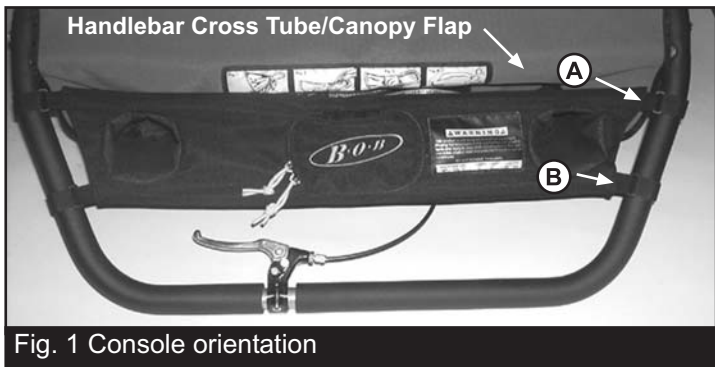

Fig. 1 Console orientation
1. Begin by orienting the Handlebar Console as shown in figure 1. The front edge of the console aligns approximately 1" behind the back of handlebar cross tube/canopy flap.
2. The Handlebar Console attaches to the stroller handlebar by 4 velcro straps. Start attaching the Handlebar Console to the handle bar with the forward right velcro strap, "A" in figure 1. The strap attaches as follows:
3. Next, attach the back right strap, "B" in figure 1. The strap attaches as follows: